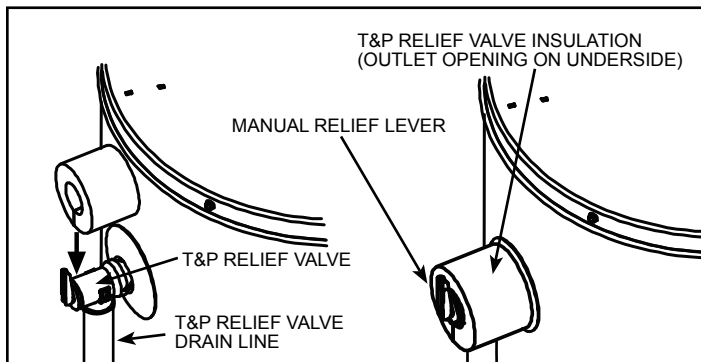

Figure 12. T&P Valve Insulation
Locate the temperature and pressure relief valve on the water heater (also known as a T&P relief valve) (see Figure 12).
2. Spread the slit open and fit the insulation over the T&P relief valve (see Figure 12). Apply gentle pressure to the insulation to ensure that it is fully seated on the T&P Relief Valve. Once seated, secure the insulation with duct tape, electrical tape, or equivalent.
**Important:** The insulation and tape must not block the discharge opening or hinder access to the manual relief lever (Figure 12). Ensure a discharge pipe is installed into the T&P valve discharge opening per the instructions in this manual.